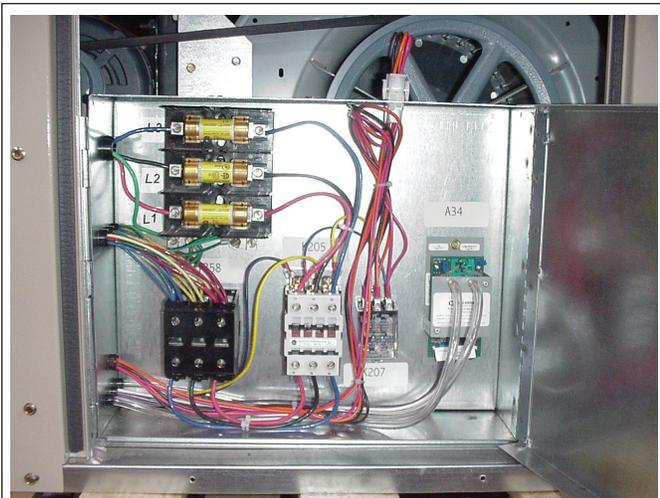

FIGURE 12
1. Verify that the (3) three phase blower motors are phased sequentially ensuring correct rotation and operation. If not go to **Step 2**.
- c. Reverse any two power leads (L1 and L2) to the PEB/PEV control box. **See Figure 12.**